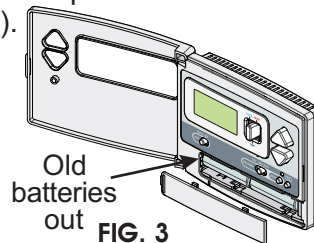

FIG. 3
- 2 Remove the old batteries and replace with the new AA alkaline batteries (fig. 3).